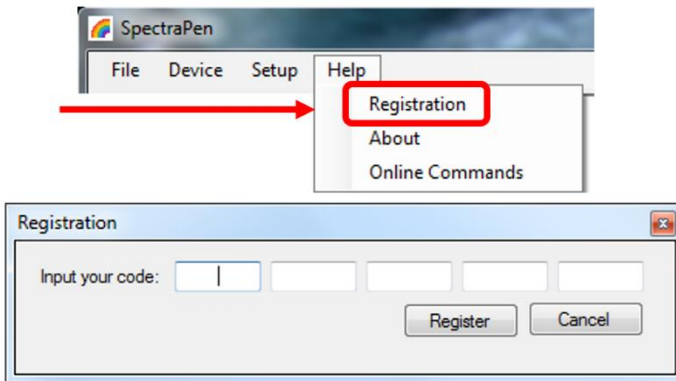

Fig. 21 Software registration.
2. To connect and recognize the SpectraPen device in the SpectraPen software, proceeds first with the registration of the SpectraPen software (Fig. 21).